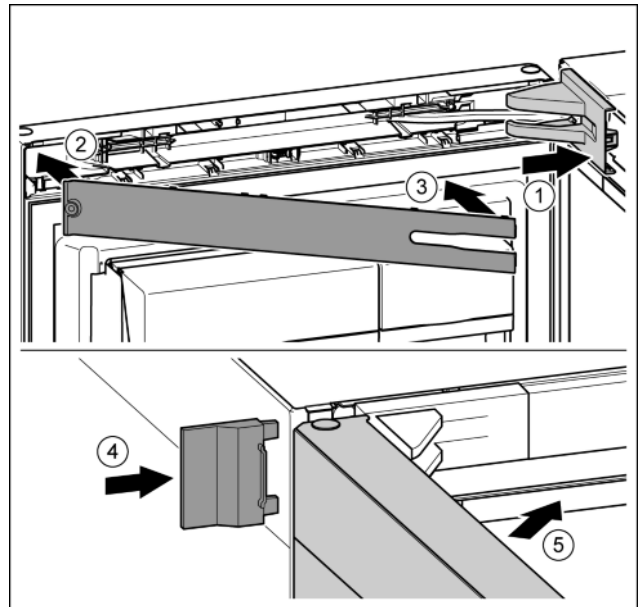

Fig. 42
- ▶ Position the bearing bracket and engage. If necessary push apart carefully. Fig. 42 (1)
- ▶ Position the panel. Fig. 42 (2)
- ▶ Swing in the panel and click into place. Fig. 42 (3)
- ▶ Slide on the external cover. Fig. 42 (4)
- ▶ Close the upper door. Fig. 42 (5)